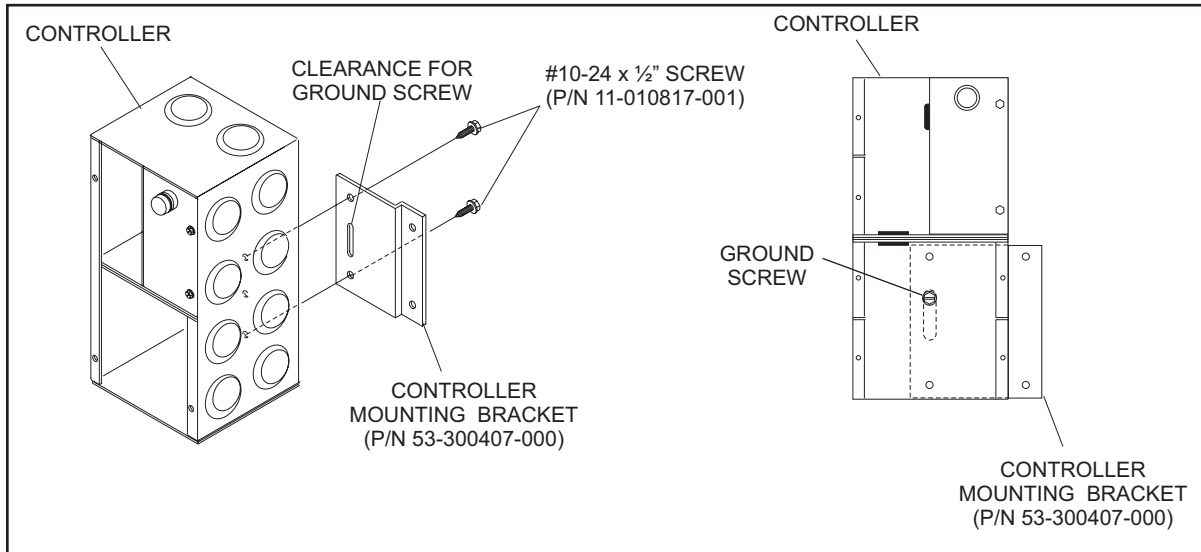

Figure 71
1. Secure the controller mounting bracket to the controller using the #10-24 x 1/2" screws. Refer to *Figure 71*.